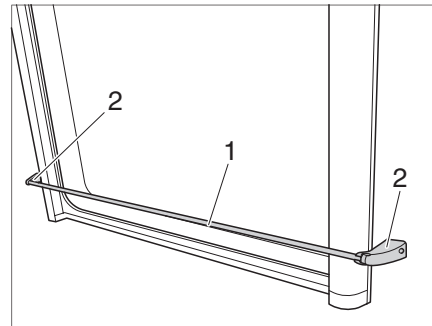

Fig. 53 Fall protection bar
- Grip the fall protection bar (Fig. 53,1) near the two brackets (Fig. 53,2) and pull forwards.
- Clip the fall protection bar (Fig. 53,1) into the two brackets (Fig. 53,2).